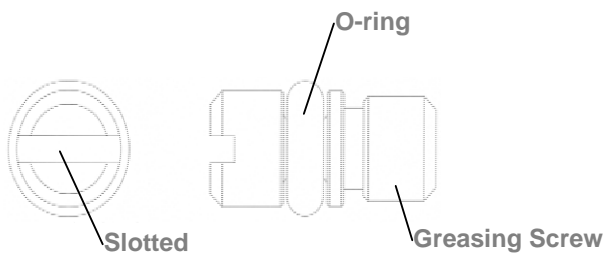

Fig. 234
- ❸ Use the screwdriver either, the slotted to tighten the greasing screw, Fig. 234.